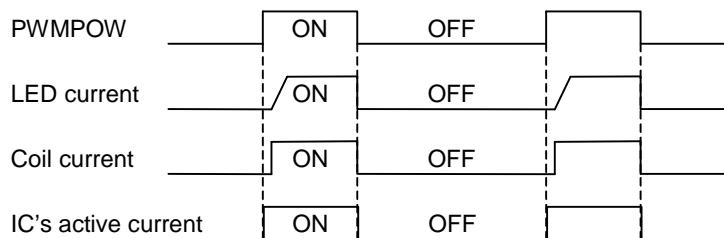

Figure 43.
2) Power control PWM control is controlled by providing PWM signal to PWMPower, as it is shown Figure 43. The current setting set up with PWMDRV logic is chosen as the H section and the current is off as the L section. Therefore, the average LED current is increasing in proportion to duty cycle of PWMPower signal. This method is, because IC can be power-off at off-time, the consumption current can be suppress, and the high efficiency can be available, so it makes it possible to brightness control until 50 μ s (MIN1% at 200Hz). And, don't use for the brightness control, because effect of power ON/OFF time changeover is big under 50 μ s ON time and under 50 μ s OFF time. There is no effect of ON/OFF changeover at 0% and 100%, so there is no problem on use.